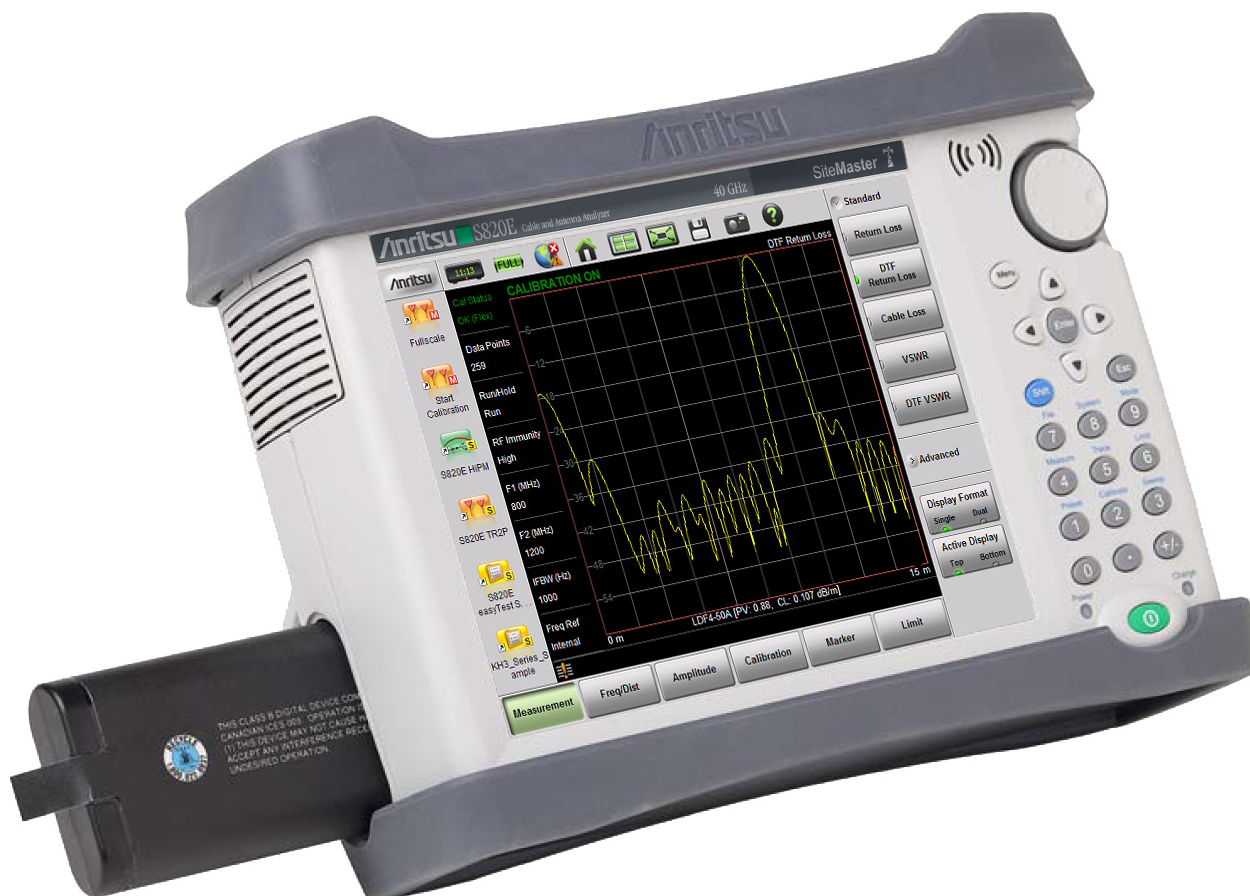

Figure 3-2. Battery Insertion and Removal
- With the battery access door completely removed, grasp the flexible handle of the battery and pull the battery straight out of the instrument (refer to Figure 3-2).